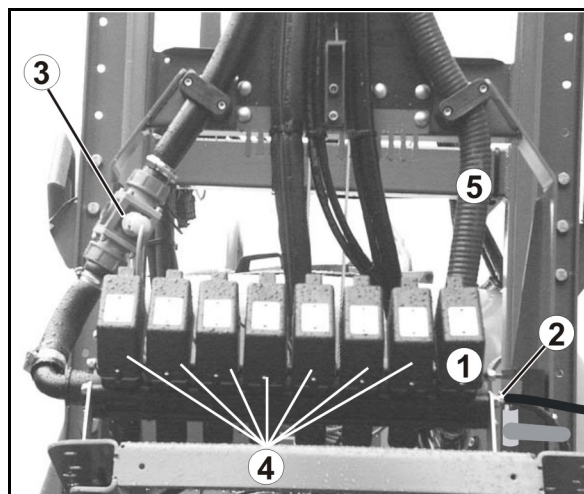

Fig. 74
Raise the sprayer boom using height adjustment until the catching lugs (**Fig. 74 /1**) are released from the catching sockets (**Fig. 74 /2**).
**Fig. 74** shows the unlocked sprayer boom.